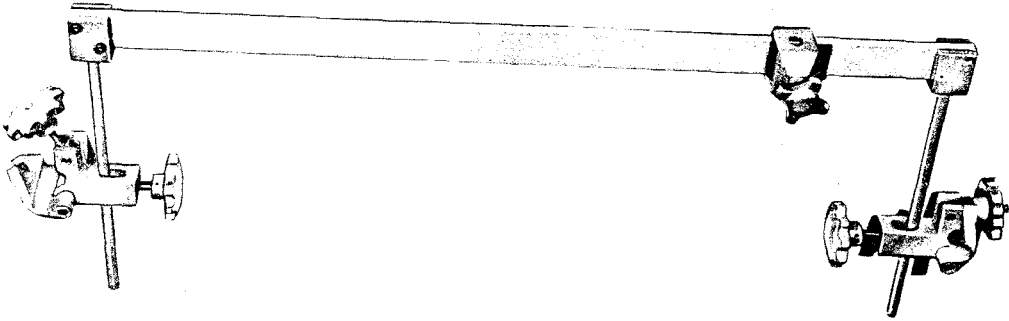
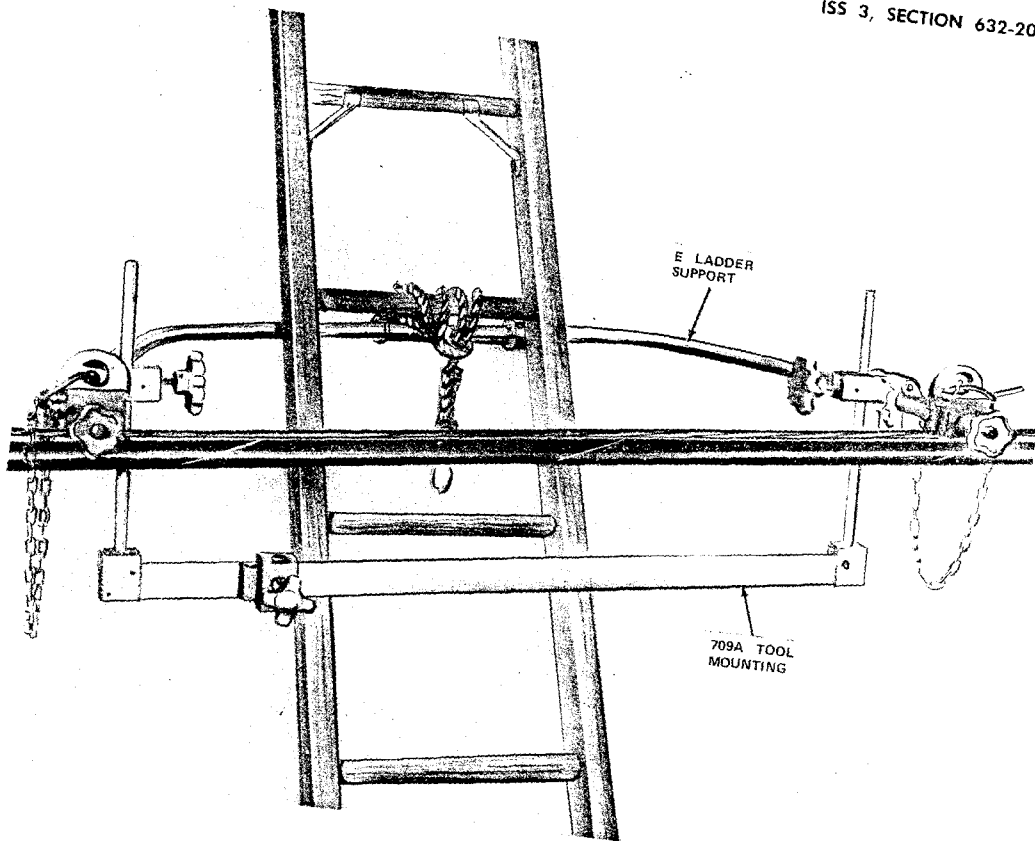

Fig. 24—709A Tool Mounting
Fig. 25—709A Tool Mounting on E Ladder Support
4.08 The 709A tool mounting (Fig. 24) is an aerial tool mounting used with an E ladder support as shown in Fig. 25.